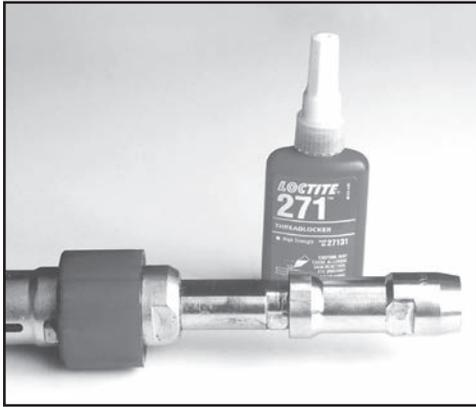

**FIG. 49: INSTALL LOCK BUSHING**
4. Install the lock bushing, pushing it onto the control stud (see Fig. 49).